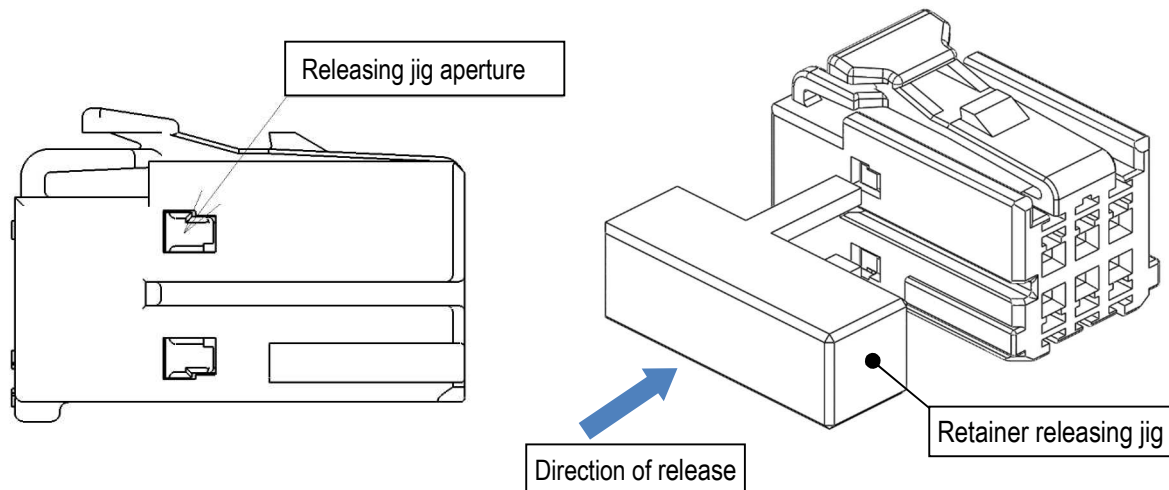

Fig 37. How to release the retainer
- ① Place the releasing jig into the releasing apertures situated on the side of the housing (Pos.1side), and push out the retainer (see Fig.37).